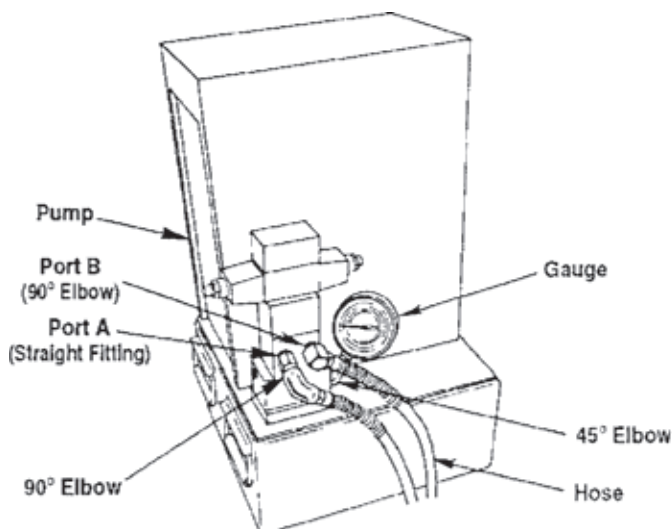
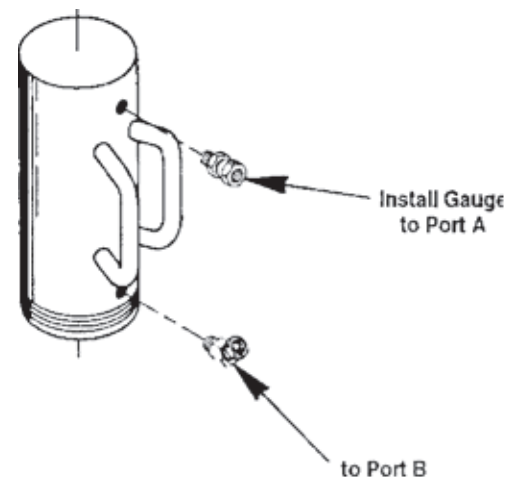

Figure 2
Figure 3
6. Clean the threads on the gauge, fittings, and hoses. Assemble hoses to pump as shown in Figure 2.
7. The gauge can be mounted to the pumps gauge port with a 45-degree elbow as shown in Figure 2. The gauge can also be mounted at the ram between the swivel fitting and the hose by using a tee adapter (not included) in the top swivel fitting. See Figure 3. In this case, install a pipe plug in the pump's gauge port.
8. Assemble hoses to the ram. Connect pump's valve port "A" to the fitting farthest away from the piston rod end of the ram. Connect valve port "B" to the fitting closest to the piston rod end. Refer to Figures 2 & 3.